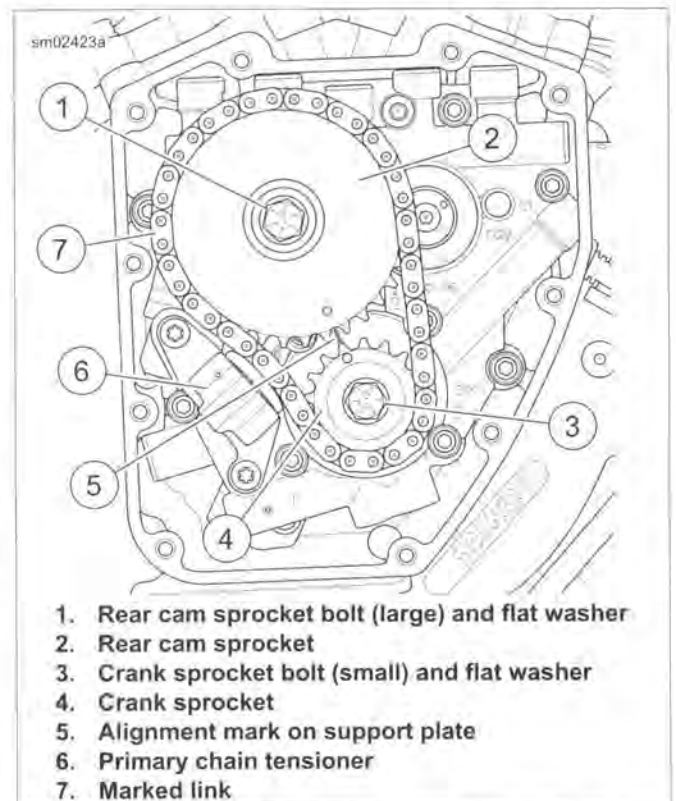

Figure 3-104. Primary Chain and Sprockets
10. See Figure 3-104. Apply a light film of SCREAMIN' EAGLE ASSEMBLY LUBE to splines on rear cam. Install the primary cam chain and sprocket assembly.
- a. Place both cam sprockets (2, 4) in the primary chain with the timing marks aligned. Verify that the marked chain link (7) is on the same side as the timing marks and is visible during installation.
11. Rotate the crankshaft clockwise until the timing marks on the sprockets are aligned and also aligned with alignment mark (5) on cam support plate.